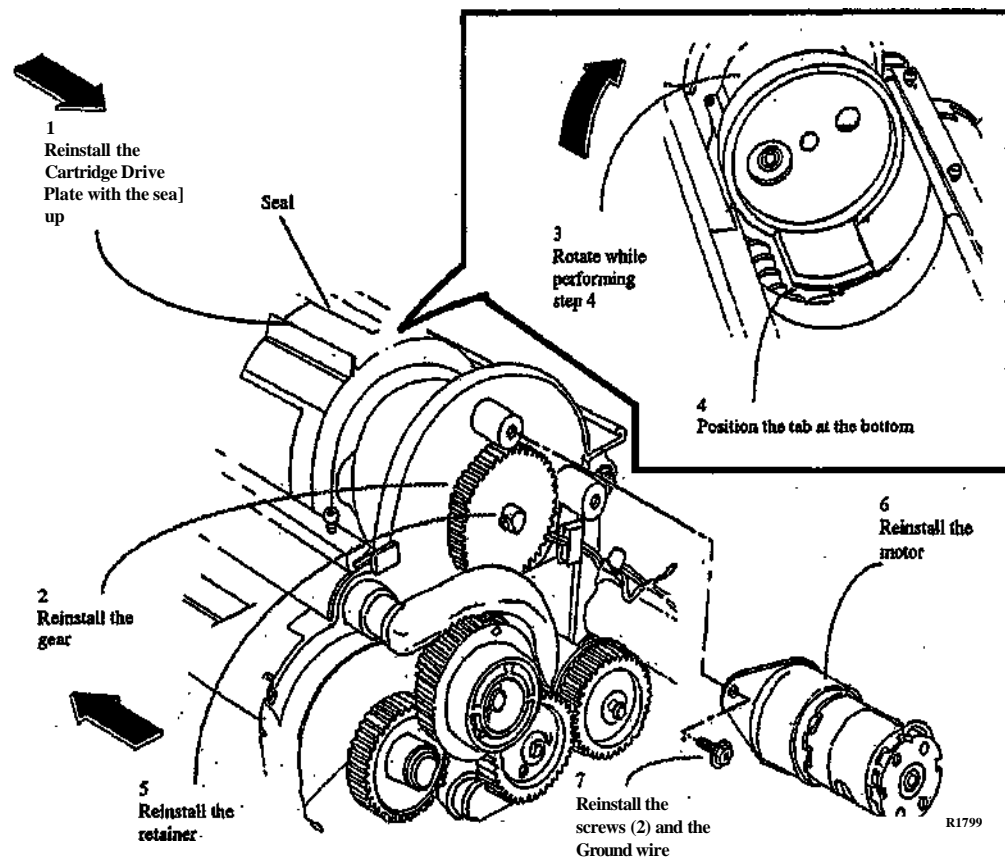

Figure 2. Reinstalling the Cartridge Drive Plate
3. (Figure 2): Reinstall the Cartridge Drive Plate.